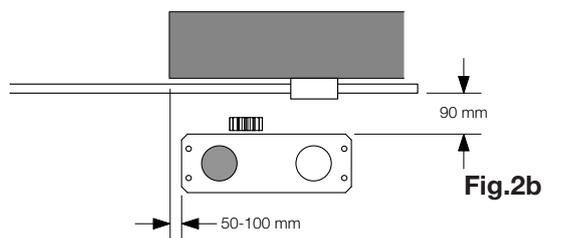

Fig.2b
- Fig. 2b installation with motor on the right